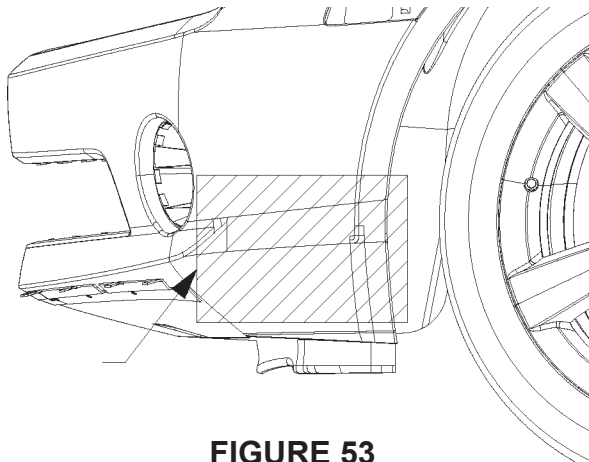

FIGURE 53
14. Wipe highlighted region of vehicle with provided alcohol wipe. Let dry. 1 per side. Refer to figure 53.